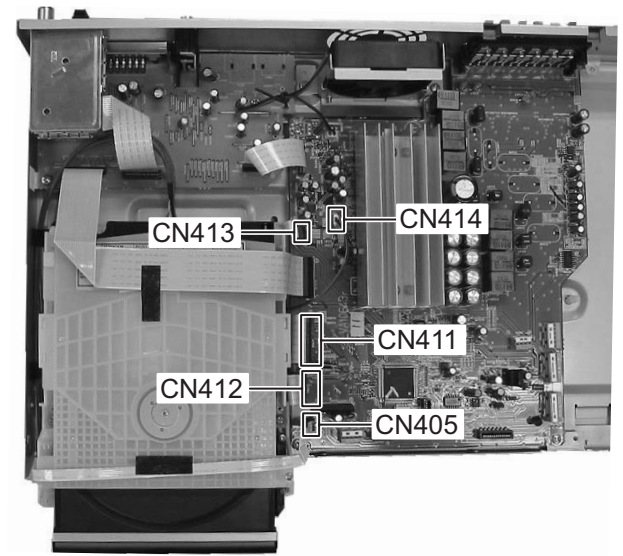

Fig.7
3.1.4 Removing the DVD mechanism assembly (See Fig.7 and 8)
- (1) Disconnect the card wires from connector CN405, CN411, CN412, CN413 and CN414 of main board. (See Fig.7)